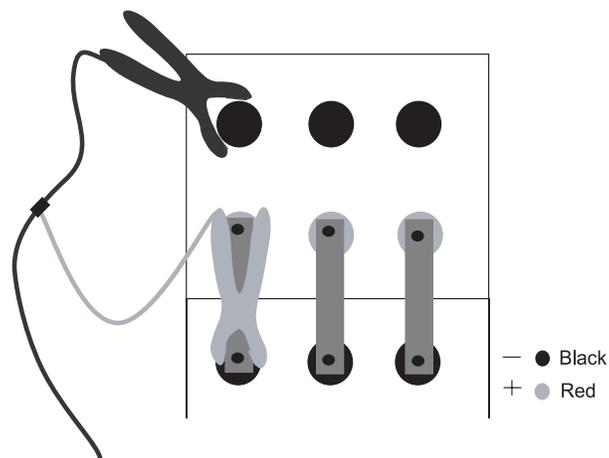

Figure 6. Attaching the cable to a strap
2. Attach the red clamp or probe at the end of the strap above the black (-) terminal on the next jar. Refer to *Figure 6*.